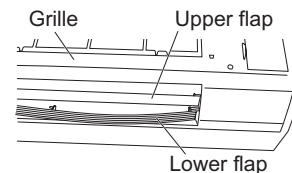

Fig. 2-208
- (5) Remove the lower flap by disengaging 4 pins of the lower flap in order. (Figs. 2-208 and 2-209)